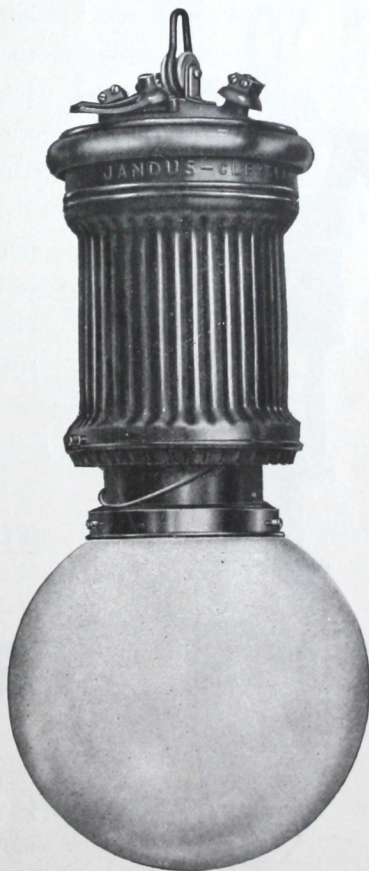

Figure 80.
**A**TENTION is first called to the main or common structure, illustrated externally and internally in Figures 80 and I-1. This structure, with casing and globes, constitutes a complete arc lamp, with the exception of the regulating mechanism, and is so designed that mechanisms adapted for the several kinds of circuits may be placed in and secured to the structure, without taking a part the latter. Nothing could be more simple. Here is an arc lamp complete except as to magnets and a few working parts. Several interchangeable actuating mechanisms are provided to fit it. Introduce the desired mechanism,